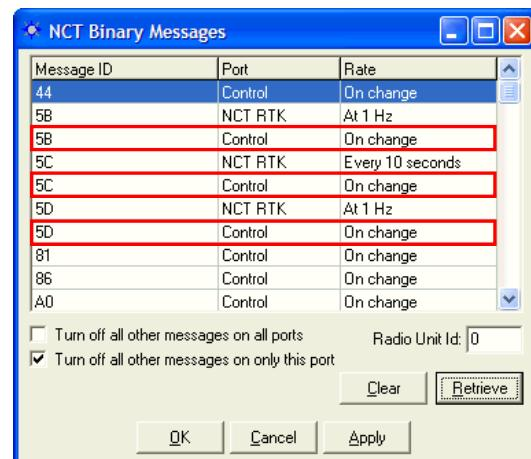

Figure 39: Second Instances of Messages
17. To view the output data of messages 5B, 5C, and 5D to verify the reception of corrections, schedule a second instance of the messages output to the *Control* port (see Figure 39):